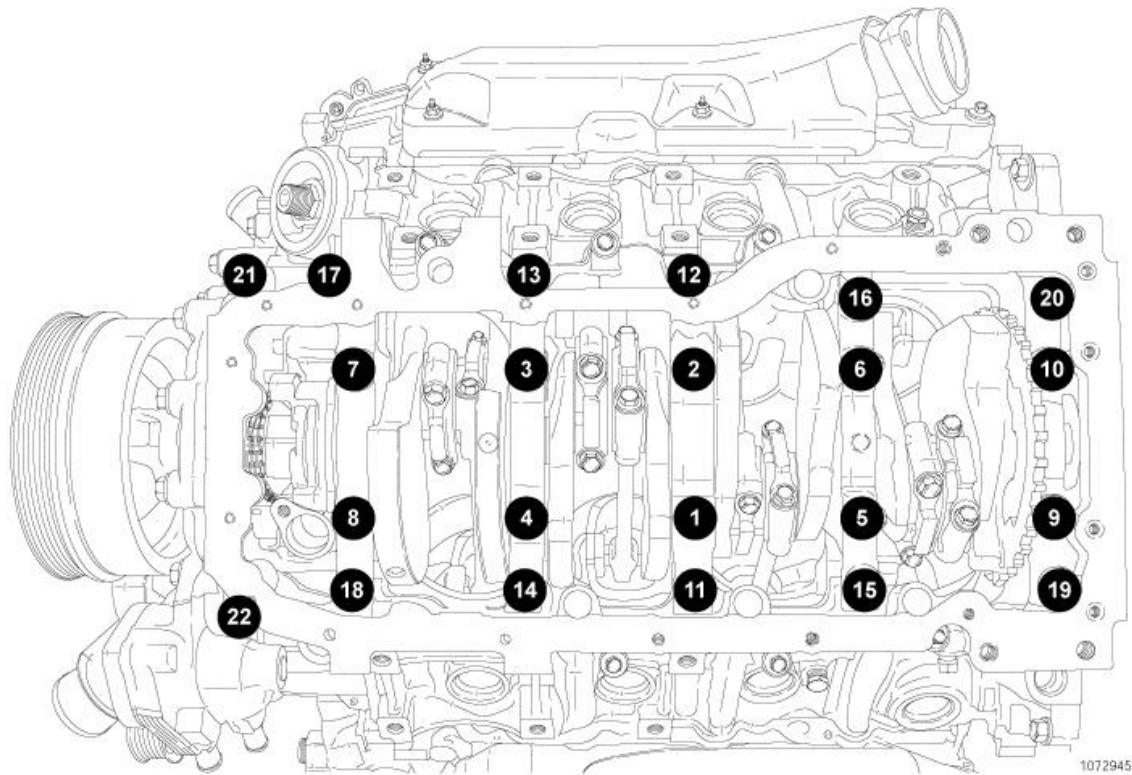

Fig. 146: Tightening Bedplate Bolts (1 Of 4)
7. Tighten bolts to 3 N.m (26 in. lbs.) in the sequence shown in illustration. See **Fig. 146**.